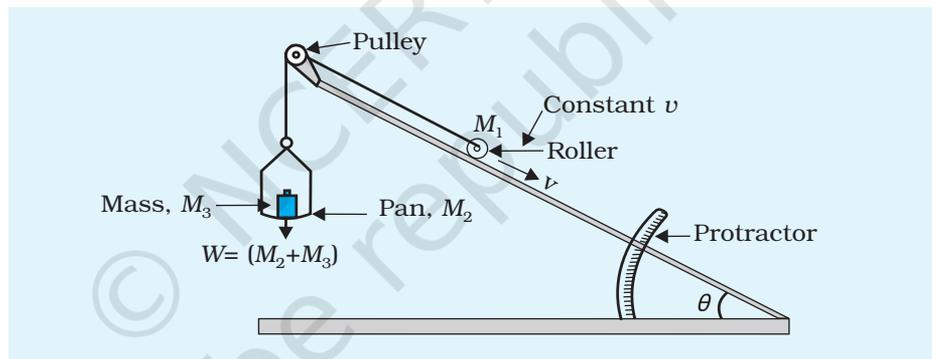

Fig. E 8.1: Experimental set up to find the downward force along an inclined plane
Consider the set up shown in Fig. E 8.1. Here a roller of mass M_1 has been placed on an inclined plane making an angle θ with the horizontal. An upward force, along the inclined plane, could be applied on the mass M_1 by adjusting the weights on the pan suspended with a string while its other end is attached to the mass through a pulley fixed at the top of the inclined plane. The force on the the mass M_1 when it is moving with a constant velocity v will be
1. Arrange the inclined plane, roller and the masses in the pan as shown in Fig. E. 8.1. Ensure that the pulley is frictionless. Lubricate it using machine oil, if necessary.